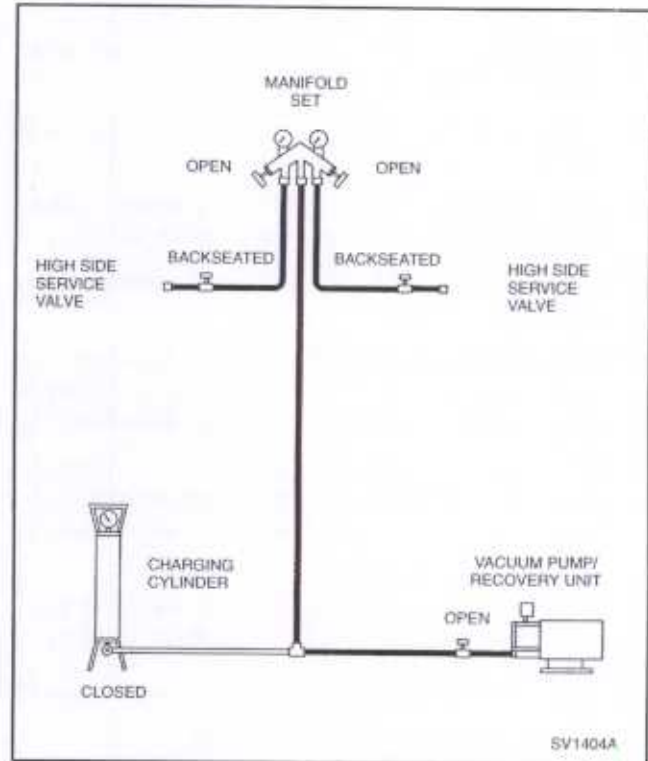

Figure 7-9. SELF-CONTAINED RECOVERY/EVACUATION CONNECTIONS
2. Install manifold gauges, charging cylinder/scale, and recovery unit or 2-stage vacuum pump (Figure 7-9).